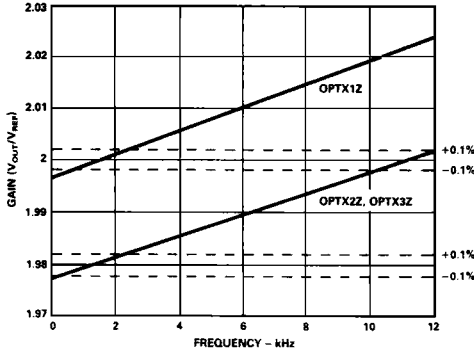

Figure 4. Gain ( $V_{SIN}, V_{COS}/V_{REF}$ ) vs. Frequency
The gain (input to output SIN, COS voltages) of the standard part is  $\times 2 \pm 0.1\%$  (Option X1Z) over the frequency range dc to 2.6 kHz. As can be seen from Figure 4, the gain at 10 kHz is  $\times 2.02 \pm 0.1\%$ .
2.6 kHz. From Figure 4 can be seen that the gain for the autonull part is typically  $\times 2 + 0.1\%$  at 10 kHz.